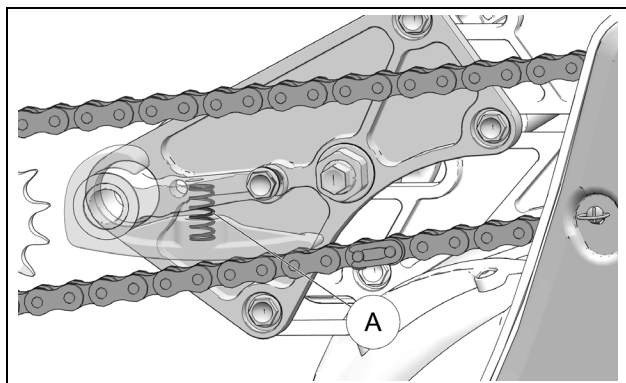

Figure 55
Verify that the Chain guard spring (A) is functional and not damaged. Replace if defective. Figure 55.